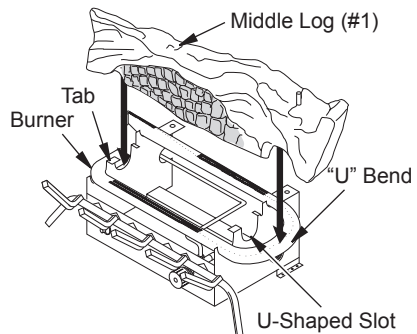

Figure 21 - Installing Middle Log (#1)
1. Place the base of the middle log (#1) in the U-shaped slots of the grate base. The cutout on the right of the middle log should fit over the burner (see Figure 21). Make sure the front of the middle log is resting on the tabs of the grate base and the cutout area is centered over the burner "U" bend.